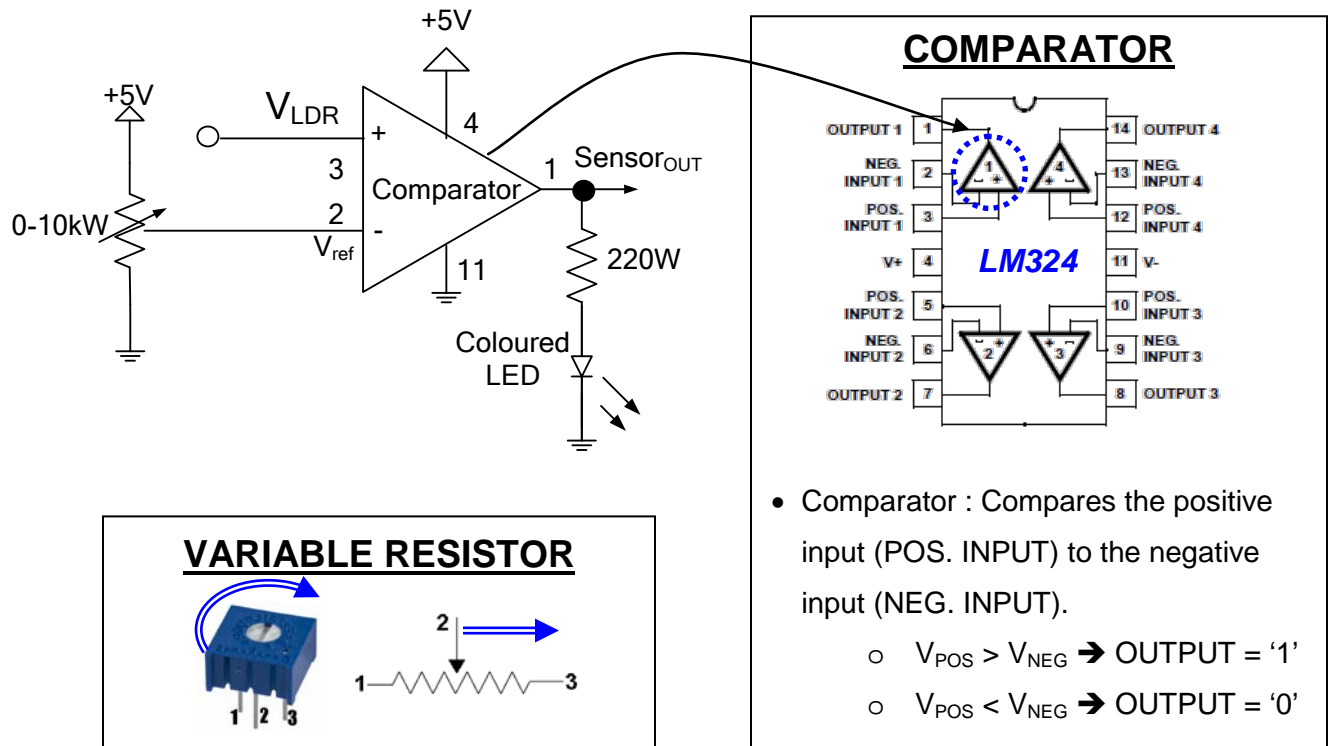

Fig. 2: Schematic of Comparator Circuit.
To utilize the output voltages from the LDR circuits to control the motors, the voltages need to be converted to logic levels at the output  $Sensor_{OUT}$  using the circuit as shown in Fig. 2.
- Construct the circuit as shown in Fig. 2.